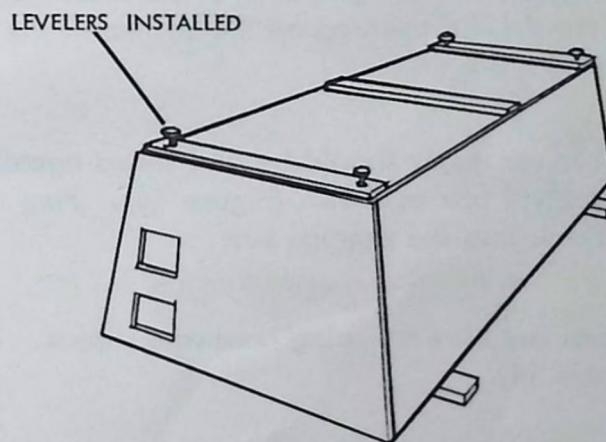
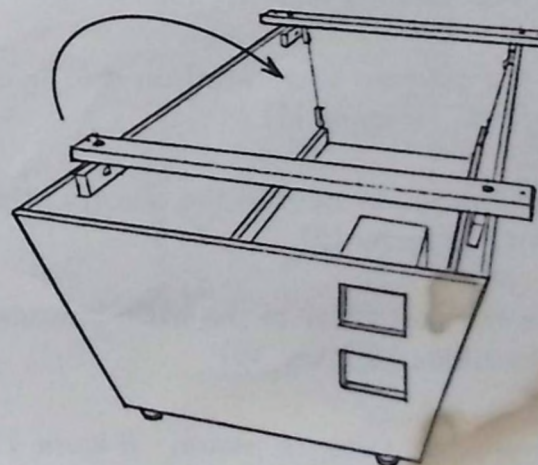

FIGURE 12
FIGURE 13
17. With the levelers installed (Figure 12), turn the completed base assembly right side up. (Figure 13)